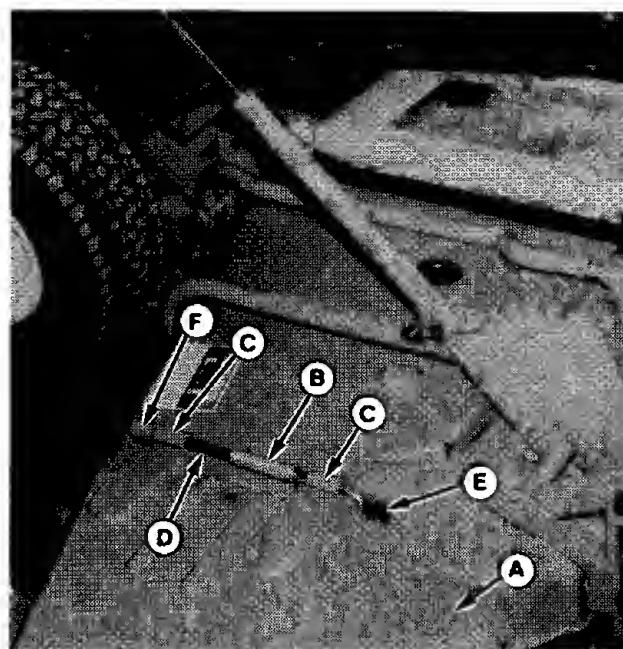

Figure 8.
1. Remove the deflector (A, figure 8) by removing carriage bolt (E, figure 8), lockwasher and nut. Save fasteners for re-installation.
2. Remove the rod (D, figure 8), spring (B), and clamp (F) from the deflector. These parts will not be used. The deflector will be reinstalled.
3. Remove the two brackets (C, figure 8) from mower deck by removing 3/8-16x7/8 carriage bolt, lock-washer and nut. Save fasteners for re-installation.